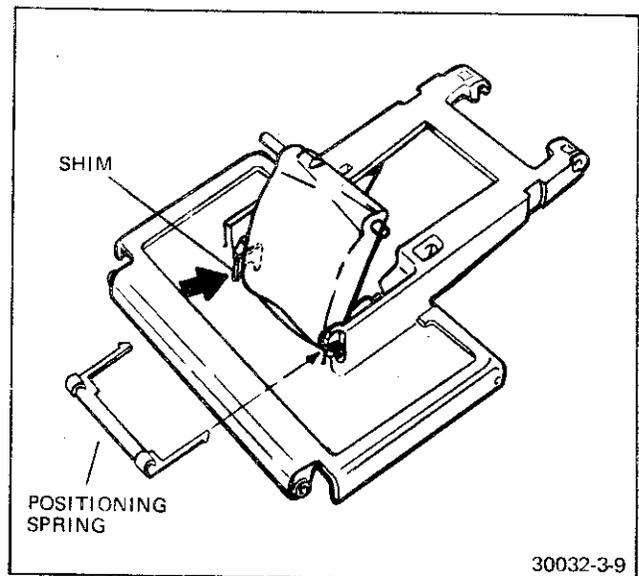

FIGURE 3-9 ORIENTATION OF SHIM AND POSITION SPRING
5. If you are unable to find a mirror position with a minimum blur, open the shade blades and displace the curved mirror sidewise. There is excess slop on some cameras that result in a de-centering of the curved mirror. This is visible by noticing the length of the 'rabbit ears', on either end of the top row. Non-symmetry of the 'ears' indicates non-symmetry of the mirror. Adjustment can be made to compensate for this error (see Figure 3-9) by means of a special shim. Use either a red or blue colored shim - differing thicknesses. Slip the shim over the right hand pivot of the concave mirror housing and press it down as far as it will go (Figure 3-9). Recheck viewfinder quality.
If the spot pattern improves to acceptable standards with the shim installed, then you have solved the problem. If the problem is caused by front and back play of the concave mirror at the pivot points, a new spring (the positioning spring) is to be installed to overcome this difficulty. See Figure 3-9 for the shape of the spring and the relative orientation where installed.